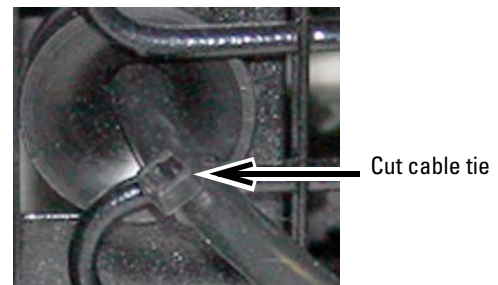

Figure 2: Cut cable tie to free line cord
3. Cut the cable tie holding the power cord that runs through the refrigeration assembly (Figure 2).